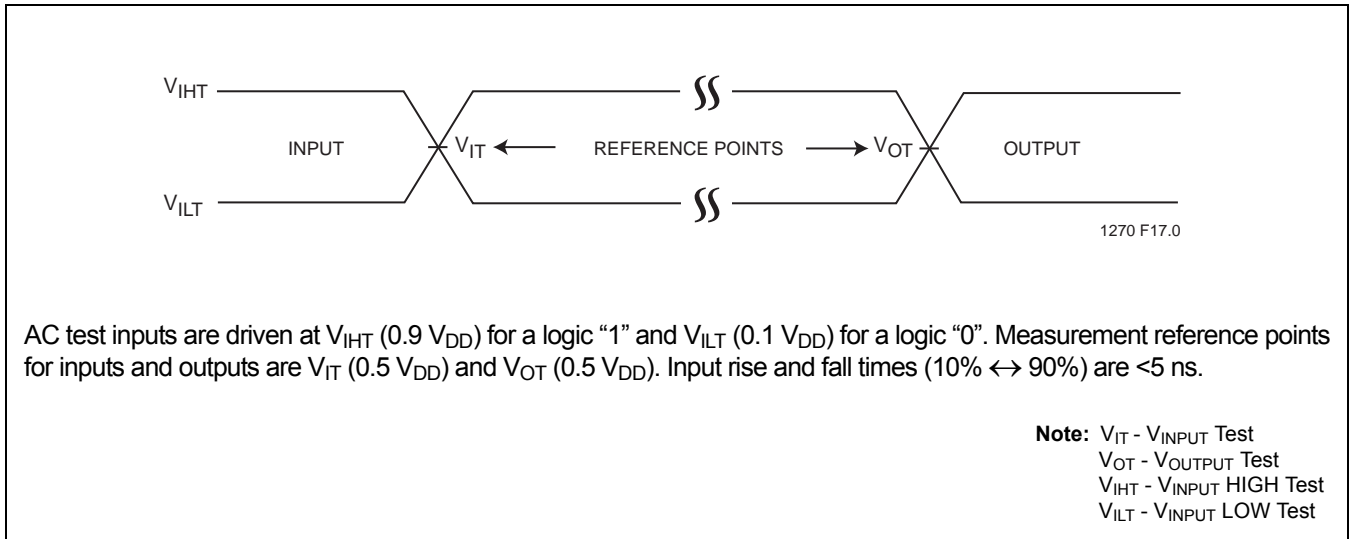

FIGURE 18: AC Input/Output Reference Waveforms
1. Address input = $V_{ILT}/V_{IHT}, V_{DD}=V_{DD} \text{ Max}$ (See Figure 18)